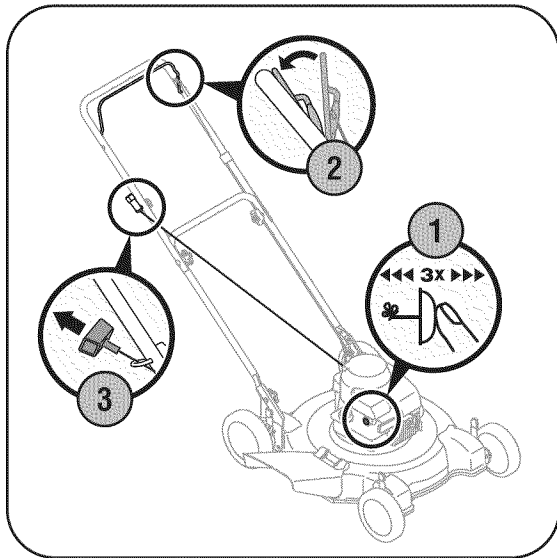

Figure 4-2: To start mower, prime the engine, squeeze blade control handle, and pull recoil starter.
1. Push primer three times. Wait about two seconds between each push, Figure 4-2. In temperature around 55°F or below, prime five times. Do not prime to restart a warm engine.
2. Standing behind the mower, squeeze the blade control handle against upper handle, Figure 4-2.
3. Holding these two handles together firmly, grasp recoil starter handle and pull rope out with a rapid, continuous, full arm stroke, Figure 4-2. Keeping a firm grip on the starter handle, let the rope rewind slowly. Repeat until engine cranks. Let the rope rewind each time slowly.